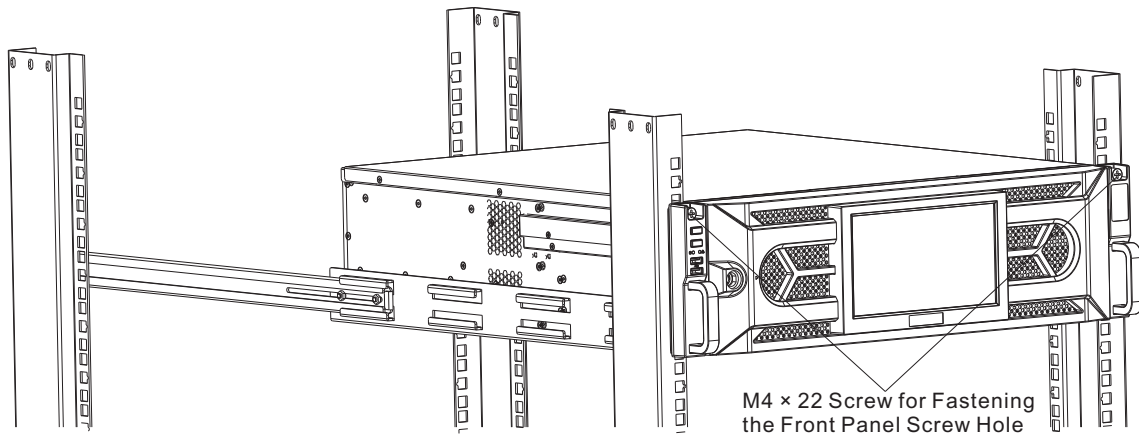

Figure 5 Fix the 3U Chassis Device with Mounting Ears in Equipment Cabinet
(2) Device of 3U chassis and with mounting ears: Place the device at the guide rail and push it to bottom. Use an M4 × 22 screw to fasten the screw hole in the top of each mounting ear, as shown in Figure 5.